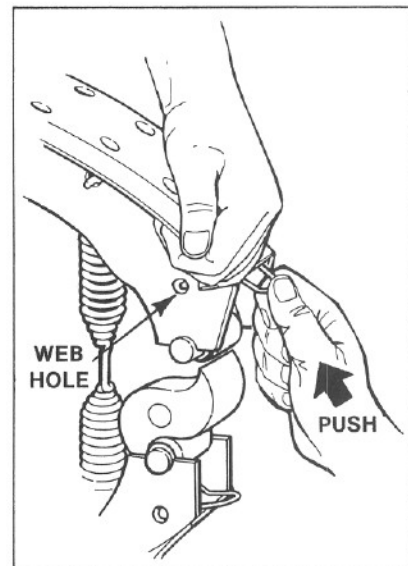

FIGURE 3
- C. Continue by pushing the retainer inward until ears engage holes in shoe webs. (Figure 3) After the roller and retainer assembly is installed relieve pressure on the brake shoe and allow roller to seat against cam.